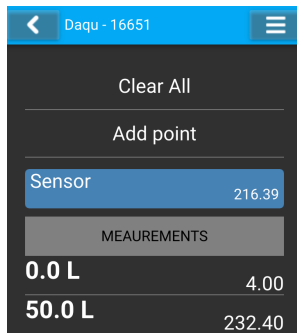

Figure 25: Tank editing window illustration.
7. In Kanja app, select Daqu/miniDaqu from the list of devices and then select **Tank** and then **Tank 1**. This shall open a page similar to Figure 25. There may be some measurement points listed.